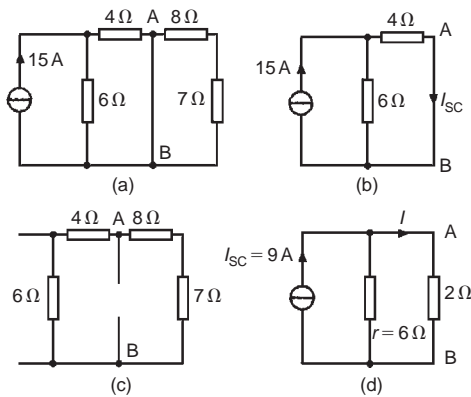

Figure 15.63
- (ii) Fig. 15.63(b) is equivalent to Fig. 15.63(a). Hence
- (iii) If the 15 A current source is replaced by an open-circuit then from Fig. 15.63(c) the resistance 'looking-in' at a break made between A and B is given by $(6+4)\Omega$ in parallel with $(8+7)\Omega$, i.e.
- (iv) From the Norton equivalent network shown in Fig. 15.63(d) the current in the 2Ω resistance is given by: